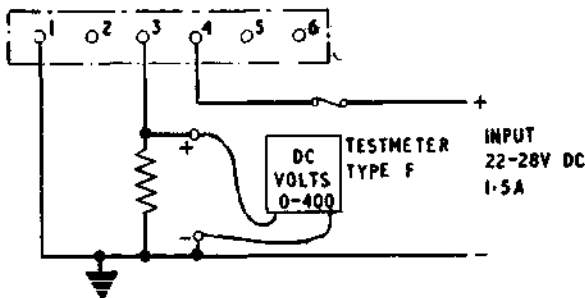

Fig. 1. HT test layout
4. The test rig may be built up locally; the parts required are listed in Table 1. The connections for the test rig are given in the layout diagrams, fig. 1 and 2. When constructing the test rig it must be borne in mind that the resistor acting as HT load will dissipate up to 33 watts and thus the mounting of this component must be given due consideration.
7. The first test is of the DC output voltage generated under full load conditions at two values of input voltage. With the power unit under test connected into the test rig illustrated in fig. 1, apply an input of 22 volts. Using the testmeter Type F, measure the output voltage appearing across the 1,500-ohm load resistor. This should be 170V to within plus or minus 5V.